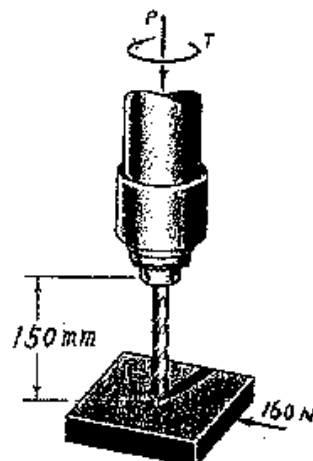

Fig. 5
4. A 12-mm-diameter drill bit is inserted into a chuck, as shown in Fig. 5. During the drilling operation, an axial force $P = 17.5\text{ kN}$ and a torque $T = 30\text{ N-m}$ act on the bit. If a horizontal force of 160 N is accidentally applied to the plate being drilled, what are the magnitudes of the largest principal stress and shear stress that develop at the top of the drill bit? Determine the critically stressed point on the drill by inspection. (25%)